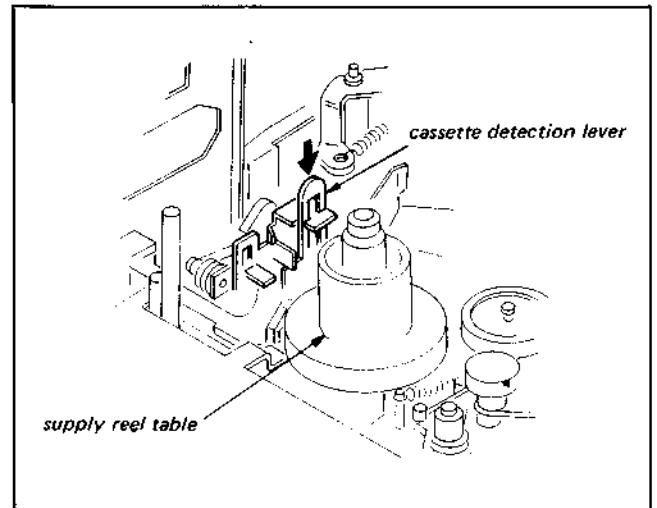

Fig. 1-8.
- Push down the cassette detection lever until the threading ring stops. (See Fig. 1-8.)